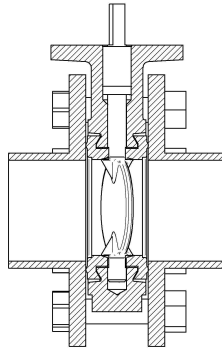

FIGURE 2: VALVE IN PARTIALLY OPEN POSITION
Step 4. To prevent damage to the disc sealing edge during installation, position the disc in the “partially open” position (Figure 2) so that the disc is still contained within the valve body.